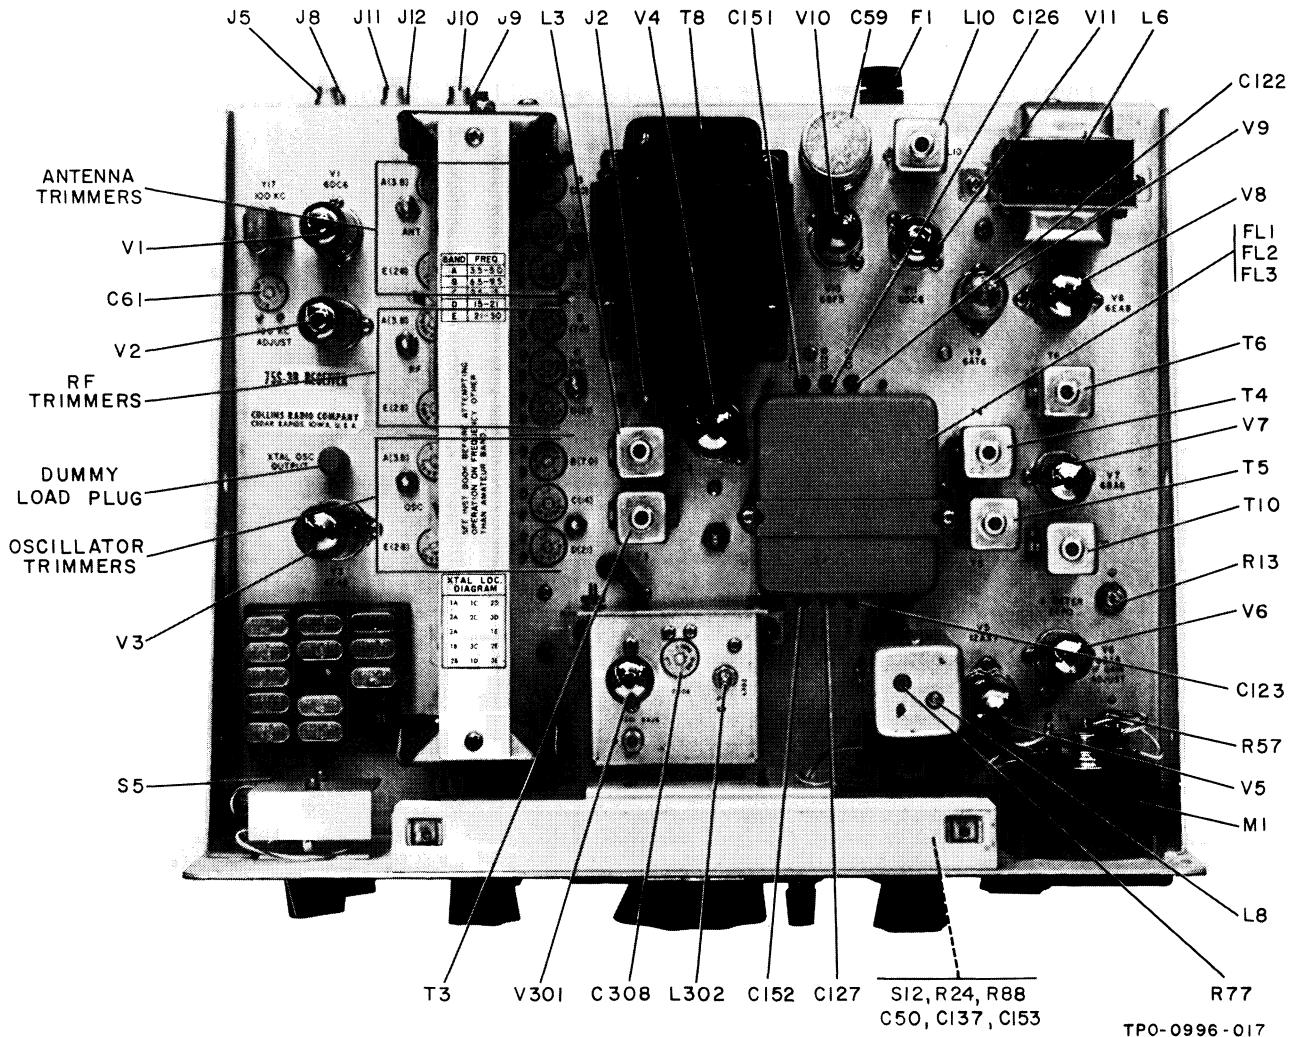

Figure 4-1. Location of Adjustments
source and the S-meter as a peak indicator. To provide a variable output attenuator for the calibrator, connect a 0.001- μ f capacitor to one end of a 5000-ohm carbon potentiometer. Temporarily connect the free end of the capacitor to tube socket terminal 5 of V1, the crystal calibrator. Connect the rotating contact of the potentiometer to ground. Figure 4-1 shows the location of adjustments except for the filter input and output trimmer capacitors. These trimmers are located under the chassis adjacent to the mechanical and crystal filters. The rotary ceramic trimmers used in the receiver are at maximum capacity when the large notch is positioned midway between the two mounting screws. Rotation in either direction from this position reduces capacity with minimum being at 180 degrees from maximum.
- b. Set both A (3.8) RF and ANT trimmer capacitors so the large notches point to approximately 2 o'clock when viewed as shown in figure 4-1. Set the A (3.8) OSC trimmer so the large notch points to the rear of the chassis.
- f. Adjust E (28) OSC, RF, and ANT trimmer capacitors for peak S-meter reading. Adjust OSC trimmer first.
- h. Adjust D (21) OSC, RF, and ANT trimmers for peak S-meter reading. Adjust OSC trimmers first.
- j. Adjust C (14) OSC trimmer for peak S-meter reading.
- l. Adjust C (14) RF and ANT trimmers for peak meter reading. Maintain S-3 signal level.